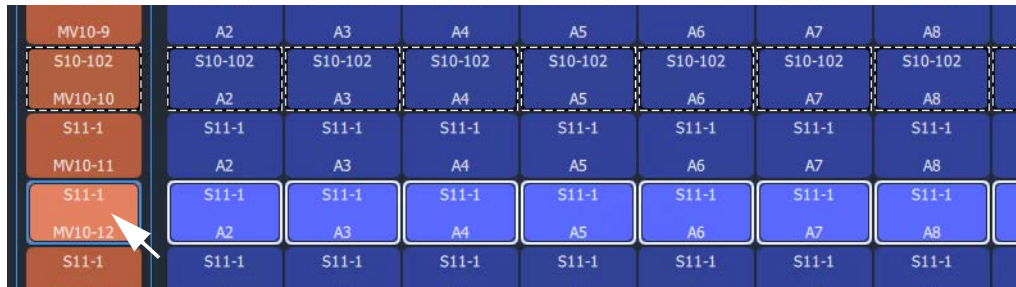

Fig. 12-84: 'Copy To' Destination Selected
- 3 Select a Destination to 'copy to'. (See Figure 12-84.)